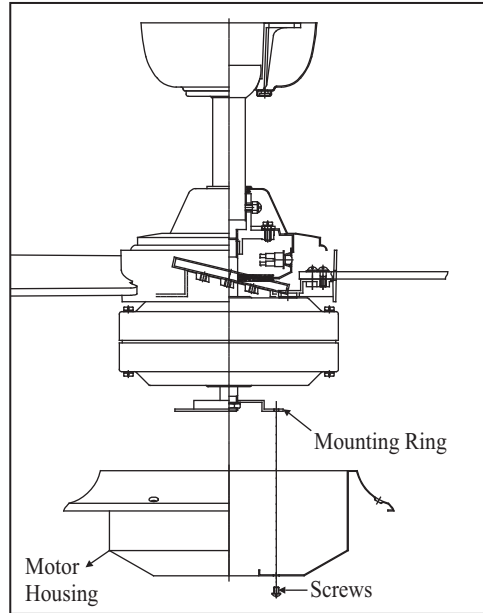

Figure 15
2. Place the key holes on the motor housing over the 2 screws previously loosened from the mounting ring, turn motor housing until it locks in place at the narrow section of the key holes. Secure by tightening the 2 screws previously loosened and the one previously removed. (Fig. 15)